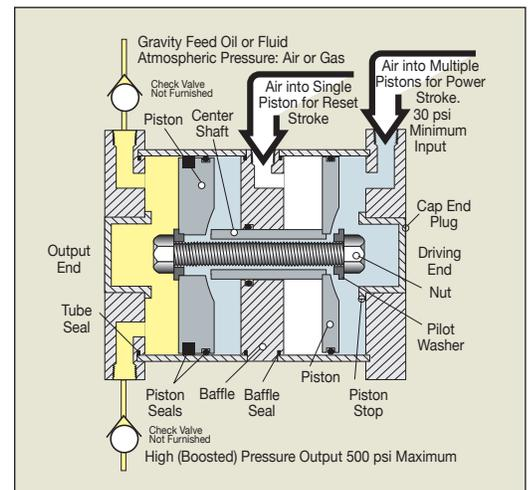

Figure 6. Function of 2-stage Pressure Booster
In Figure 6 above we show only two (2) pistons. But Fabco-Air boosters can have as many as five (5) pistons driving the output.